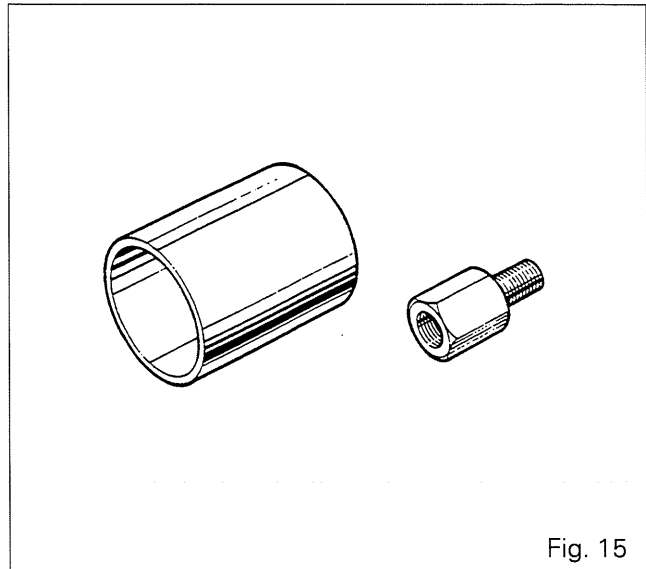

Fig. 15
**MF451B - Swivel pin puller (Fig. 15)**
**MF451B/3 - Adaptor for puller M18 (Fig. 15)**